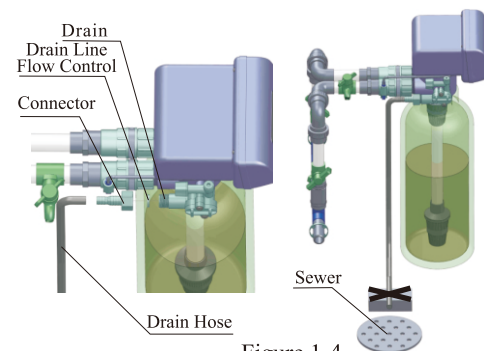

Figure 1-4
⑤ Install drain pipeline
- a. As the Figure 1-4 shows, slide the drain hose connector into drain outlet.
- d. Locate the drain hose well as the Figure 1-4 shows.
- Be sure not connect drain with sewer directly, and leave a certain space between them, avoid wastewater being absorbing to the water treatment equipment, such as showed in the Figure 1-4.
⑥ Connect brine tube